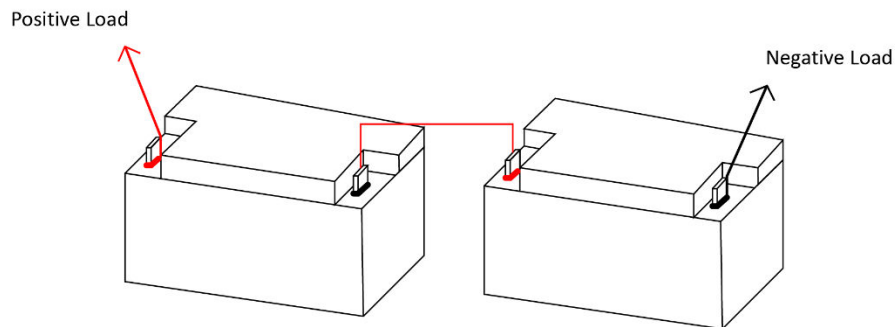
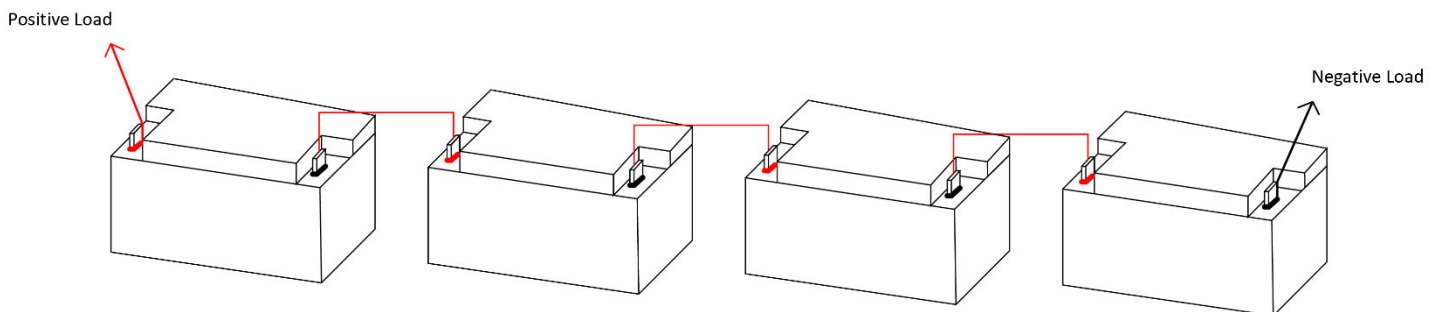

Figure 4.1: Two 10012 Batteries Connected in Series to create a 24V 100Ah Battery Bank
Figure 4.2: Four 10012 Batteries Connected in Series to create a 48V 100Ah Battery Bank
7. Repeat steps 3-6 for additional batteries, but **DO NOT** exceed 48V. An example of a correct series connection can be found below in Fig. 4.1 and Fig. 4.2.